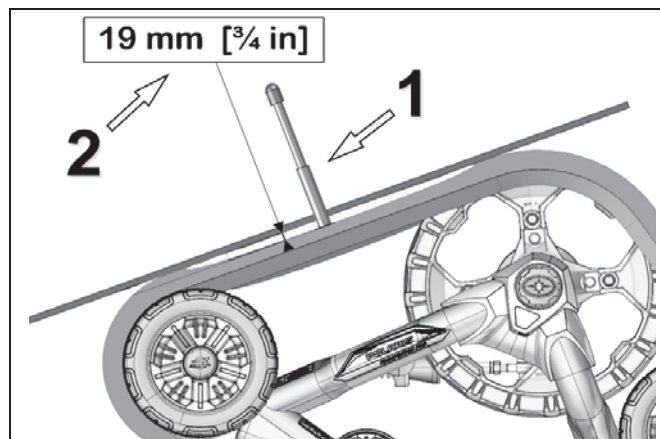

Figure 24
The table below shows the force (1) applied and the deflection (2) which must occur depending on the conditions of use. Refer to Figure 24.